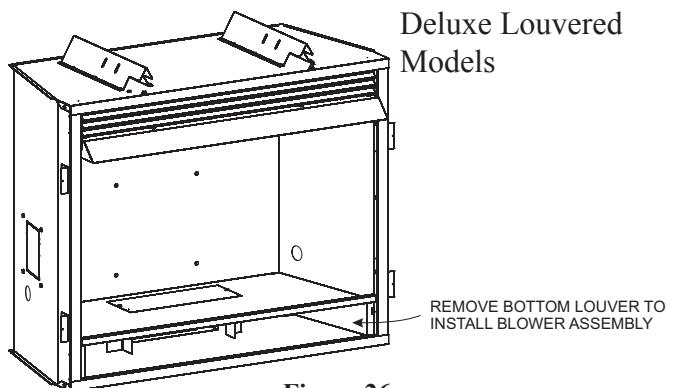

Figure 26
3. Determine which type of firebox you have prior to installation. See **Figures 26 and 27**.